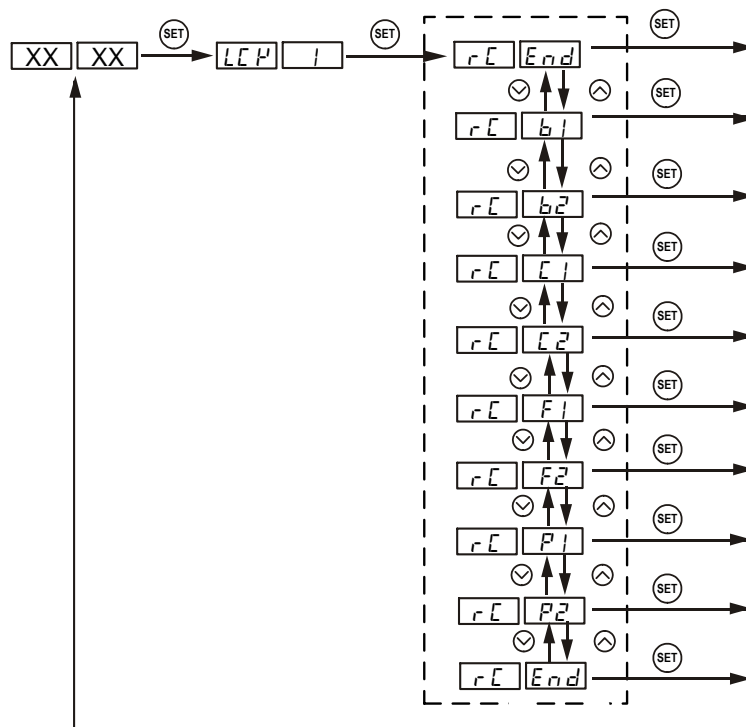

Figure 10. Flow chart of recalling a recipe.
**WARNING:** Your current program will be overwritten by the selected recipe. Please write it down somewhere if it is important to you. To recall a recipe, press and hold SET key for 2 seconds until the left window shows “LCK” and then release the SET key. The right window will show “0”. Use “+” key to adjust the number to “1” and then press SET. Then “rC” (recall) will be shown on the left window and “End” on right window. This can prevent your current program from being accidentally overwritten by a recalled program. Use “+” or “-” key to locate recipe you want to recall. If you press “+” key repeatedly, you will see “End”, “b1”, “b2”, “C1”, “C2”, “F1”, “F2”, “P1”, and “P2” one by one. After you locate the recipe that you want to recall, press the SET key to select. Current program will be overwritten by the selected program. Figure 10 shows the flow chart of how to recall a recipe.